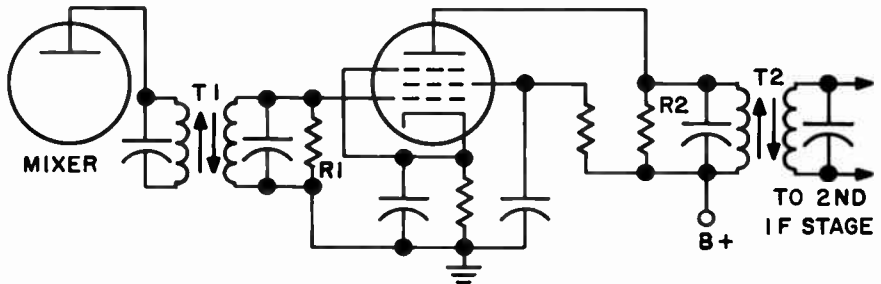

FIG. 16-15. IF AMPLIFIER STAGE.
**IF AMPLIFIER STAGE.** Fig. 16-15 shows a typical IF amplifier stage that is used in an FM receiver. The stage operates as a Class A amplifier using cathode bias. Class A amplifiers must be used since we do not want to distort the signal. A pentode is used because external neutralization would be necessary if a triode were used. Resistors R1 and R2 broaden the response curve of the stage to accommodate wideband signals. In the case of an FM broadcast station, the bandwidth is 150 kHz wide.